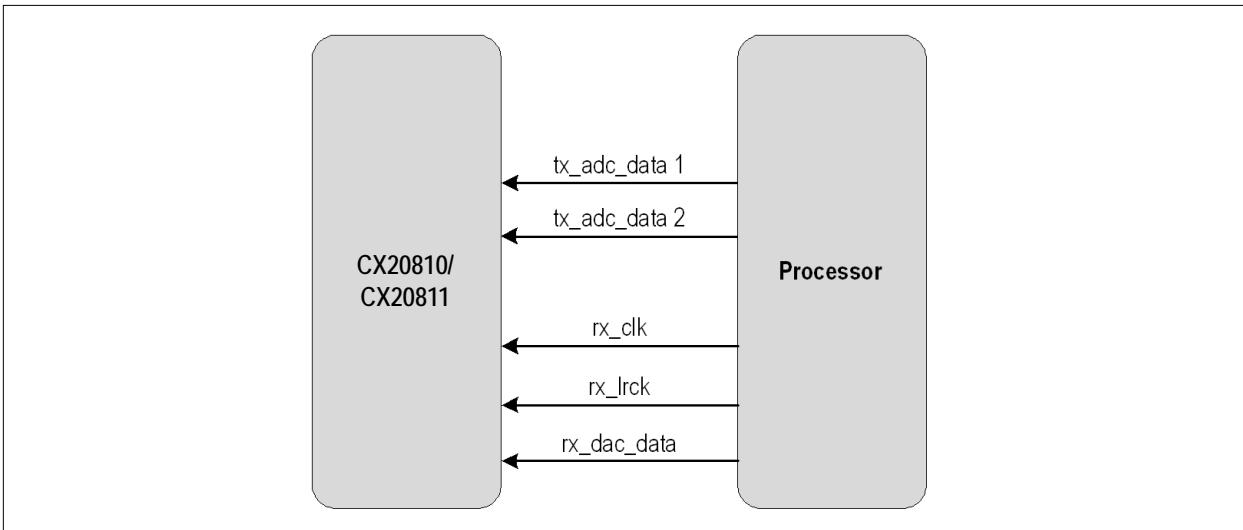

Figure 85: Five-Wire Slave Mode with DAC BCLK, LRCK
- Figure 85 on page 141 provides the five-wire slave mode with DAC BCLK/LRCLK